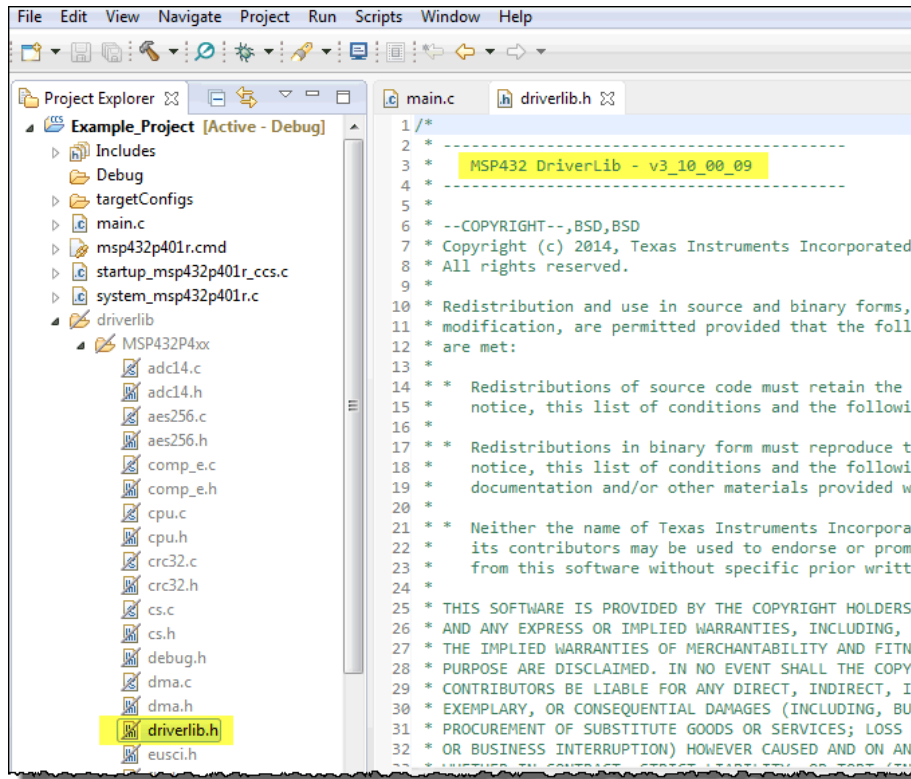

Figure 1. Version Comment in driverlib.h
1. Look at the version number in the comment section of the driverlib.h file (see Figure 1).